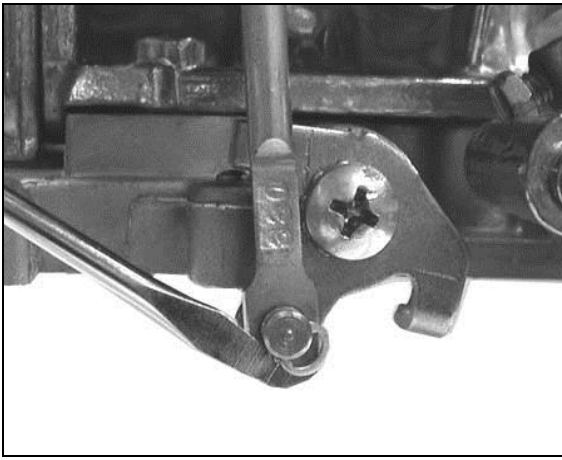

Figure 16
3. Remove the clip retaining the diaphragm plunger to the secondary throttle lever using a small flat-blade screwdriver (Figure 16).